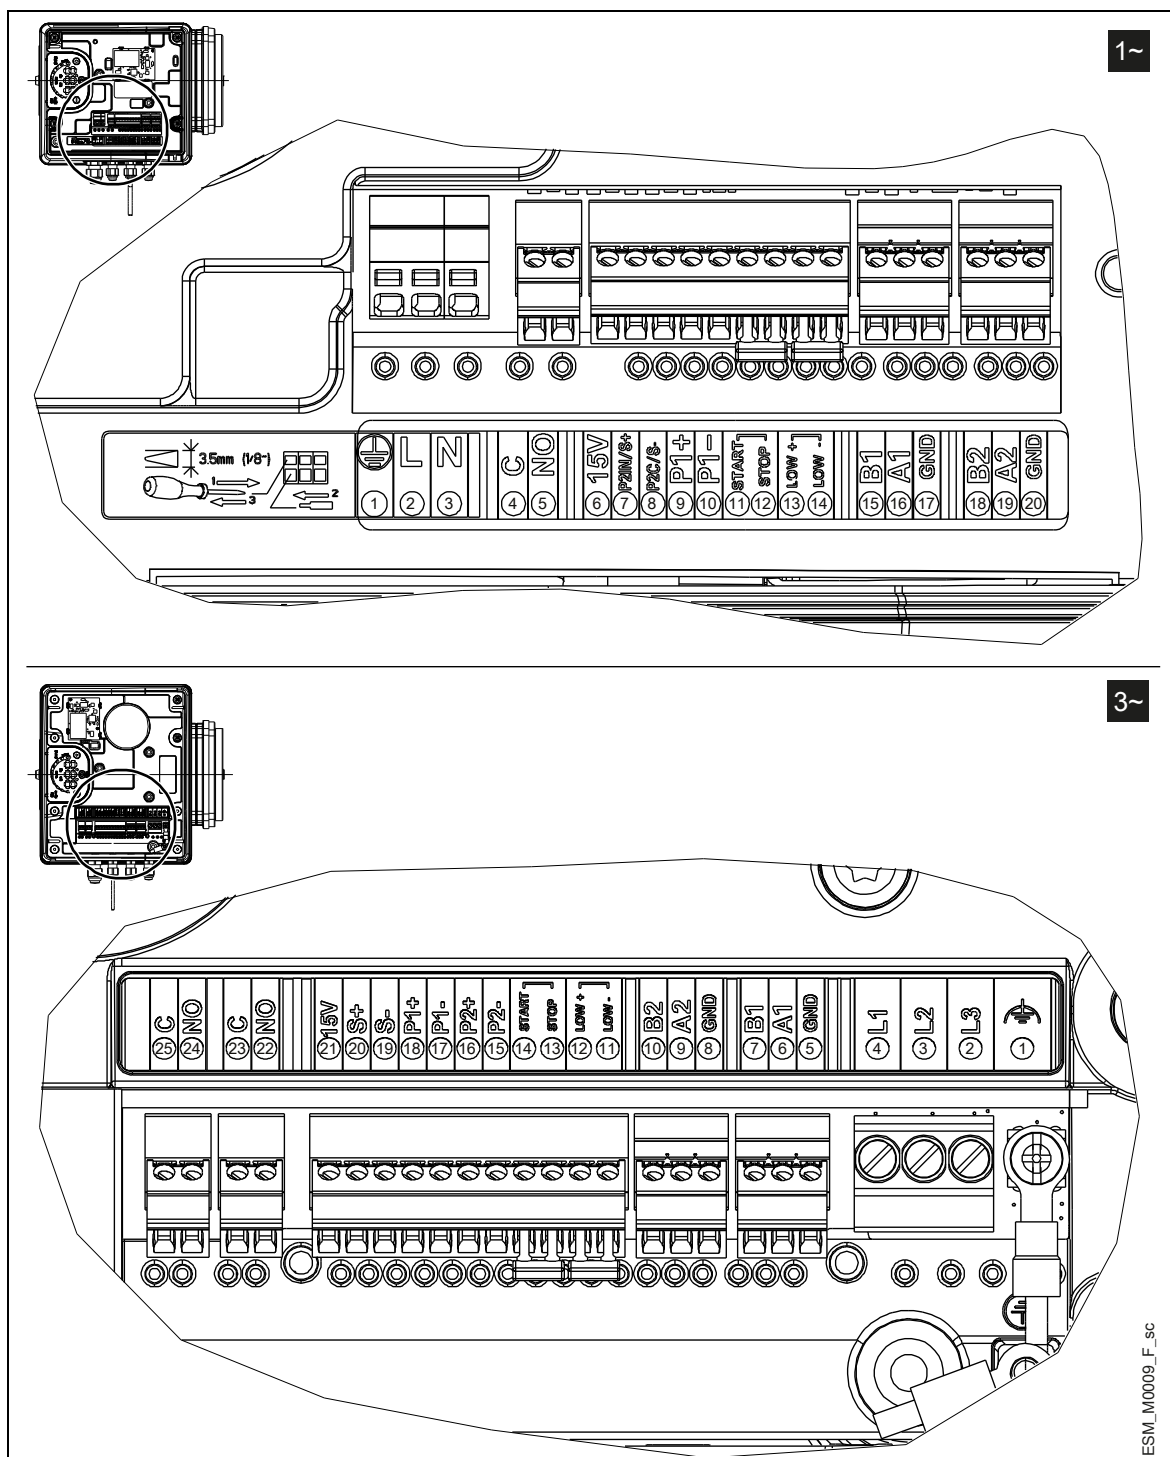

Figure 10: Connection label
2. Connect the cable according to the wiring diagram.	Fig. 10